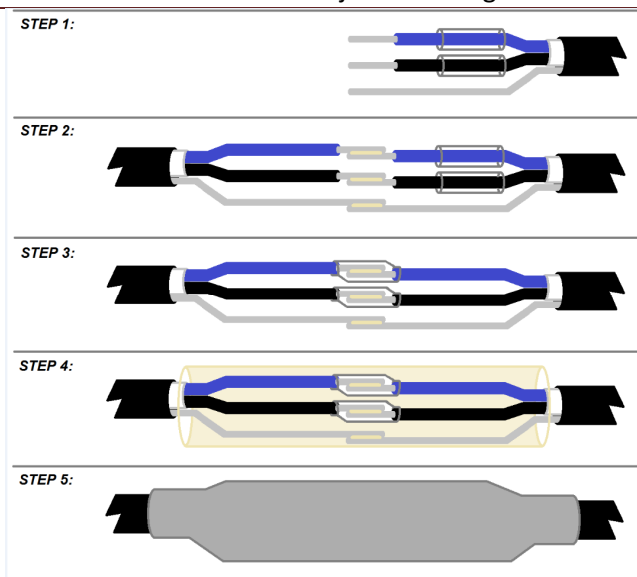

Figure 128 - Ultrasonic Cable Splicing Process Steps
- The sensor are supplied with a 60 foot (18.3m) long cable. If the cable is not long enough to reach the bay box, the cable may be lengthened. When doing this, the following process must be followed exactly to ensure proper function of the ultrasonic sensors. See Figure 128 for a diagram showing the process below.